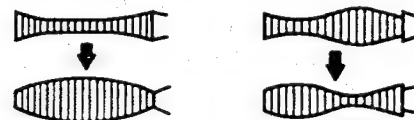

Fig. 1-4-11 Abnormal variation of the waveform
8. If the envelope varies as shown in Fig. 1-4-11, adjustment of the S, T-guide rollers may be upset, if so perform the adjustment again.